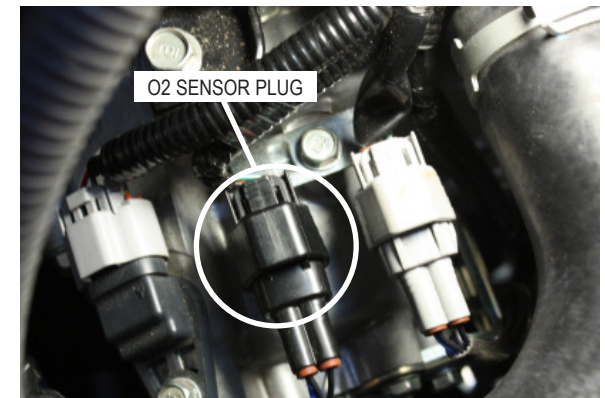

Fig. 11M
- S. Unplug the black o2 sensor plug located at the top of the engine, left of the upper coolant hose. See Fig. 11M